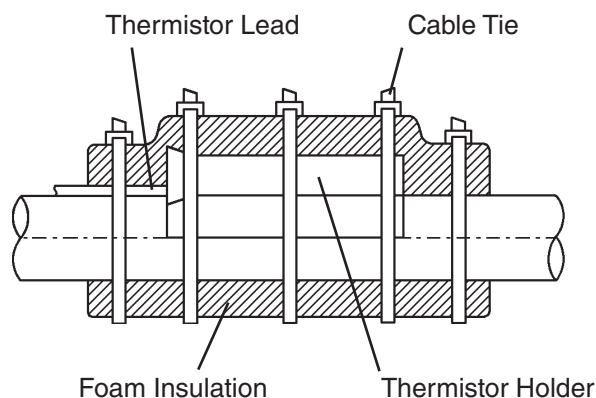

Fig. 3
- 5) Remove the plastic cable ties, foam insulation, thermistor holder, and thermistor. See Fig. 3.